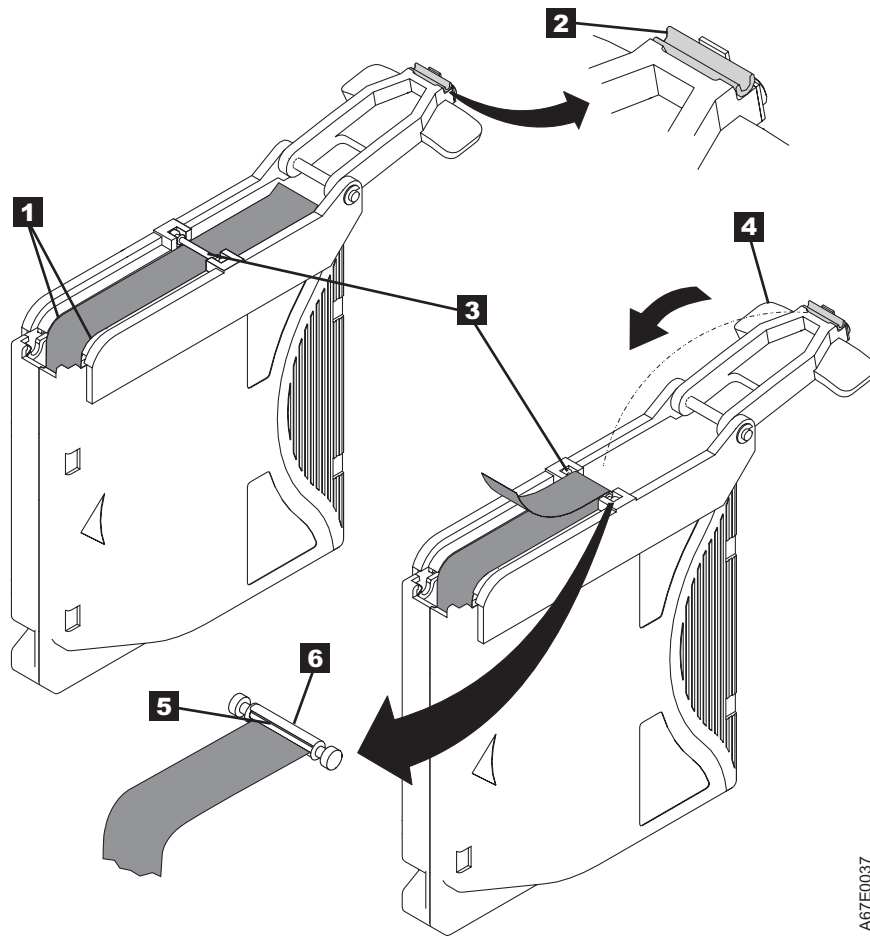

Figure 58. Attaching the leader pin to the tape
7. Position the tape in the alignment groove of the leader pin attach tool (see **1** in Figure 58 on page 240).
11. Fold the tape over the leader pin and hold it with your fingers (see Figure 58 on page 240).